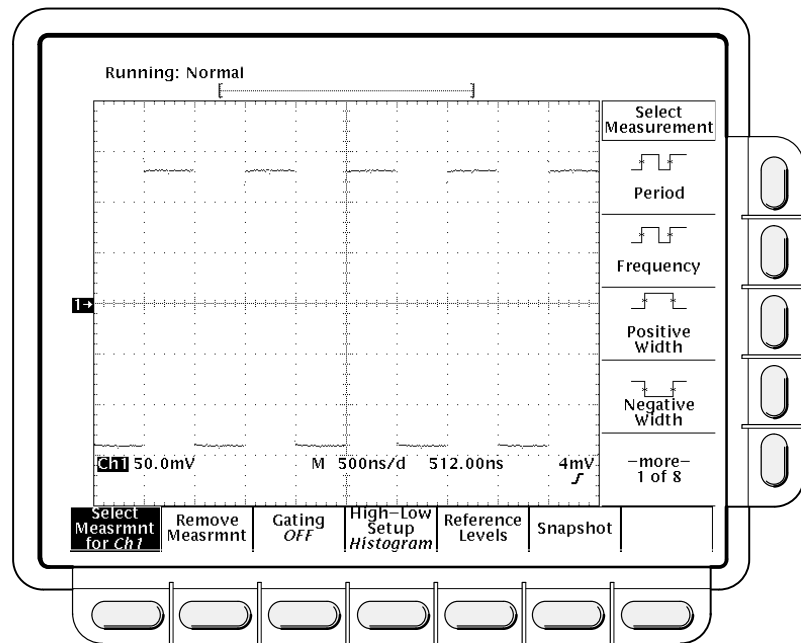

Figure 1-16: Measure Main Menu and Select Measurement Side Menu
1. Press **MEASURE** to display the Measure main menu (see Figure 1-16).